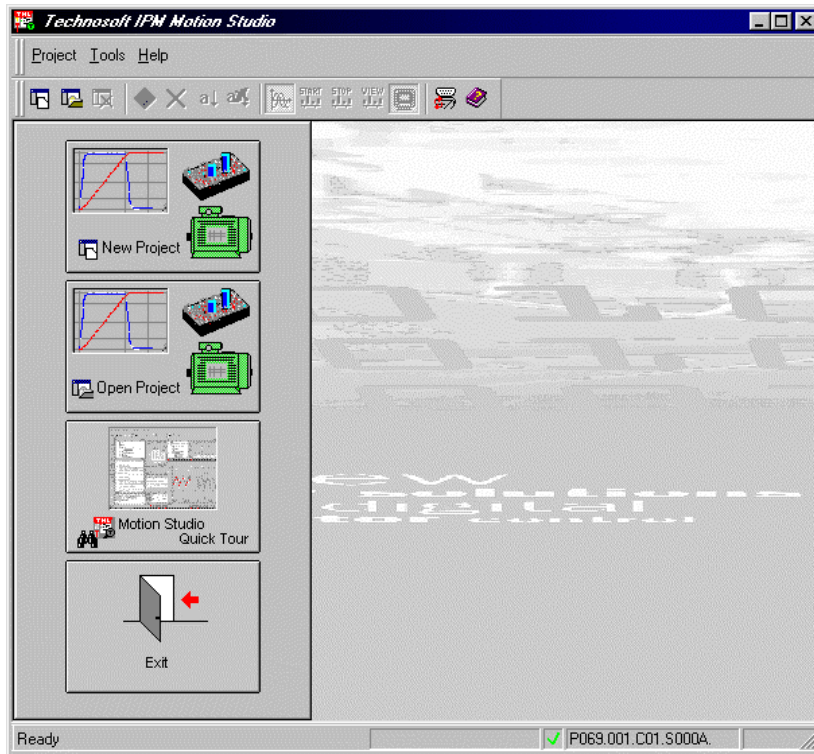

Figure 7. IPM Motion Studio opening screen
1. **Start the execution of IPM Motion Studio;** use the Windows “**Start | Programs | IPM Motion Studio | IPM Motion Studio**” menu command. A dialog as in Figure 7 should be displayed if the communication with the board is established and operates properly.